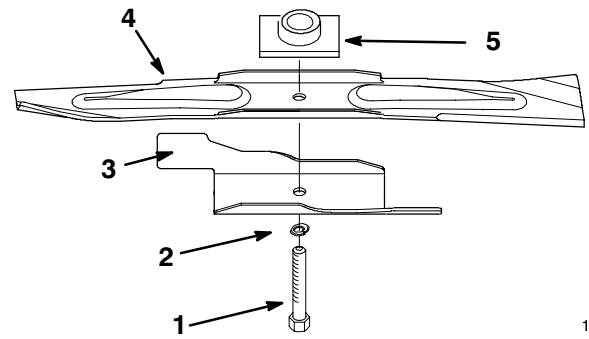

Figure 22
2. Remove the blade bolt, the lock washer, the blade accelerator, and the blade (Fig. 22).
- Position the blade onto the spindle and the blade driver, with the curved blade tips pointing toward the lawn mower and the blade driver nesting in the recess of the blade (Fig. 22).
- Install the accelerator, the lock washer, and the blade bolt (Fig. 22).